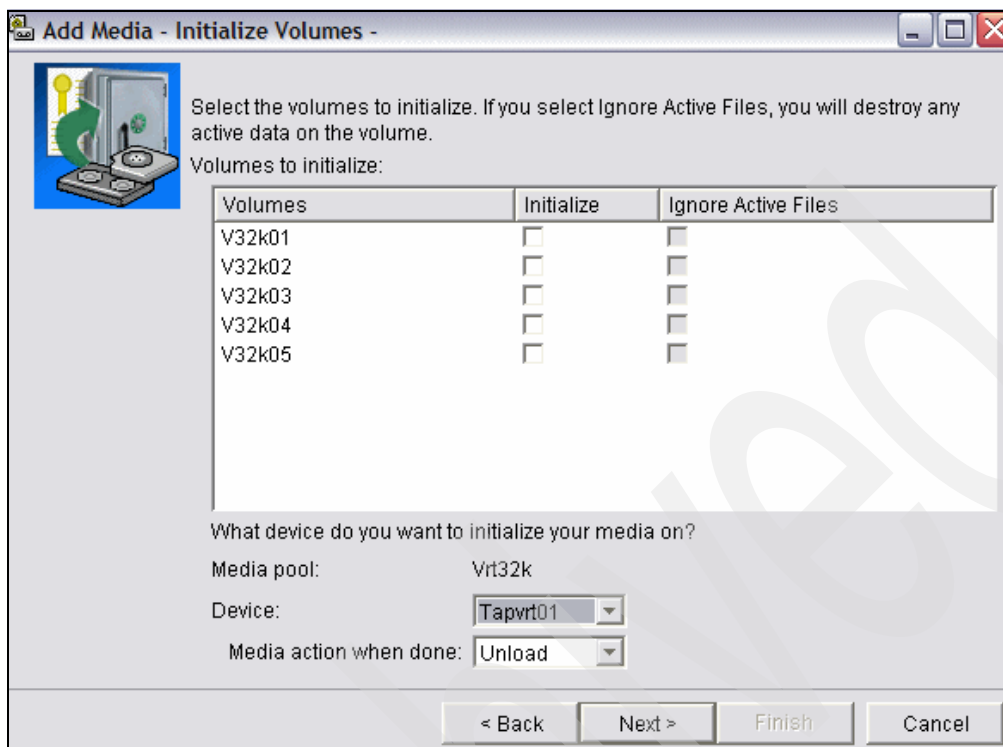

Figure 7-52 BRMS adding media, initialize tape volumes
8. The next window, shown in Figure 7-52 on page 385, allows you to initiate the media and virtual tape drive that should be used. Do so, if required.